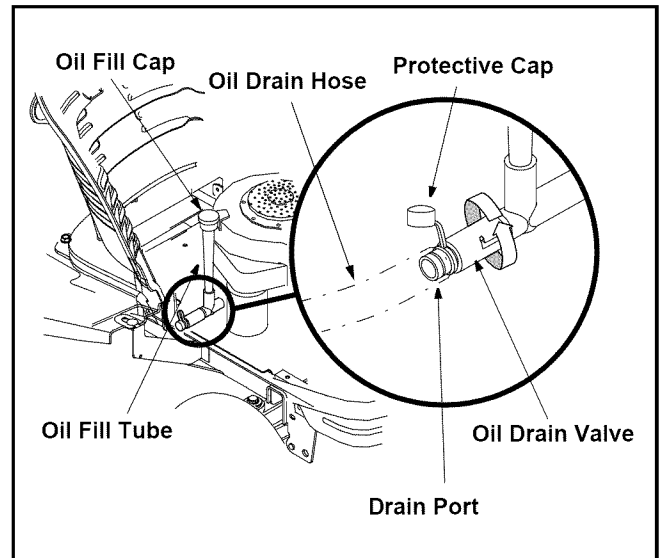

Figure 19
- Unscrew oil fill cap and remove dipstick from the oil fill tube. See Figure 19.
- Pop open the protective cap on the end of the oil drain valve to expose the drain port. See Figure 19.
- Push the oil drain valve in slightly, then rotate counterclockwise and pull outward to begin draining oil. See Figure 19.